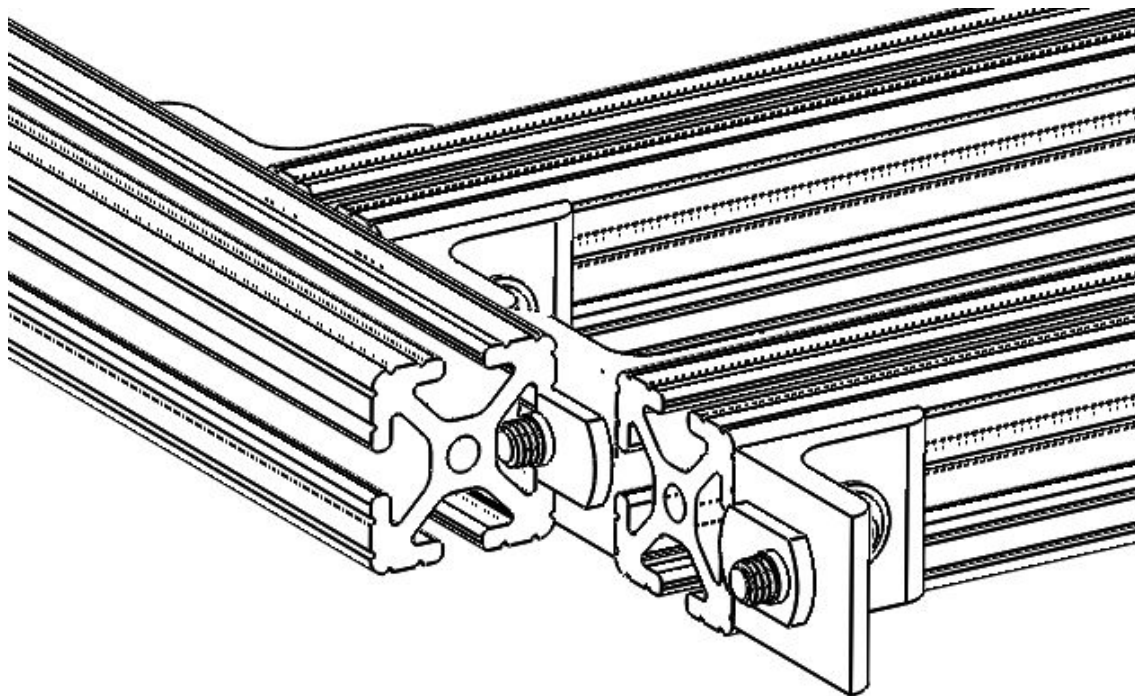

Fig. 3.12: 4ft beam(#HJXQ) through the end feed fasteners four corner brackets (#REGC)
- ❑ Take the extra 4 feet beam (#HJXQ), and slide it through the end feed fasteners that are free on the other side of four L corner brackets from the two beams assembled in the previous step, as shown in Fig. 3.12.